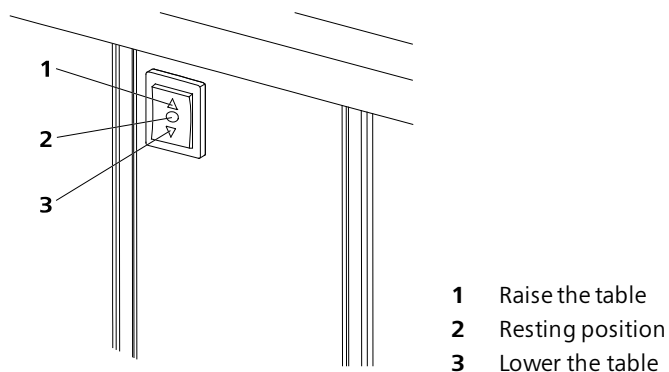

Fig. 8 Rocker switch for adjusting table height
- Operate the rocker switch on the lifting column according to the symbols on the rocker. The table will move in the desired direction: either up (**1**, Fig. 8) or down (**3**, Fig. 8).